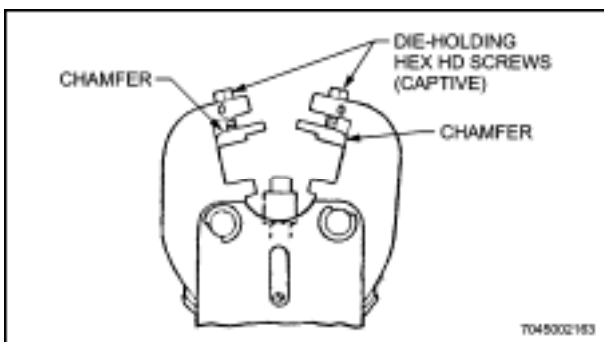

Figure 12-57 Orientation of Die Chambers
- d. Position each die of the die set on its respective tool jaw, orienting chamfer on die as shown in Figure 12-57. Die chamfers positioned improperly will result in an unacceptable termination.